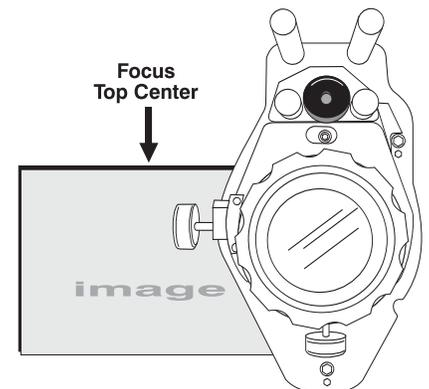

Figure 2.31. Adjust Top Focus
7. When the left/right boresighting is complete, focus the image at the top edge of the screen (Figure 2.31).